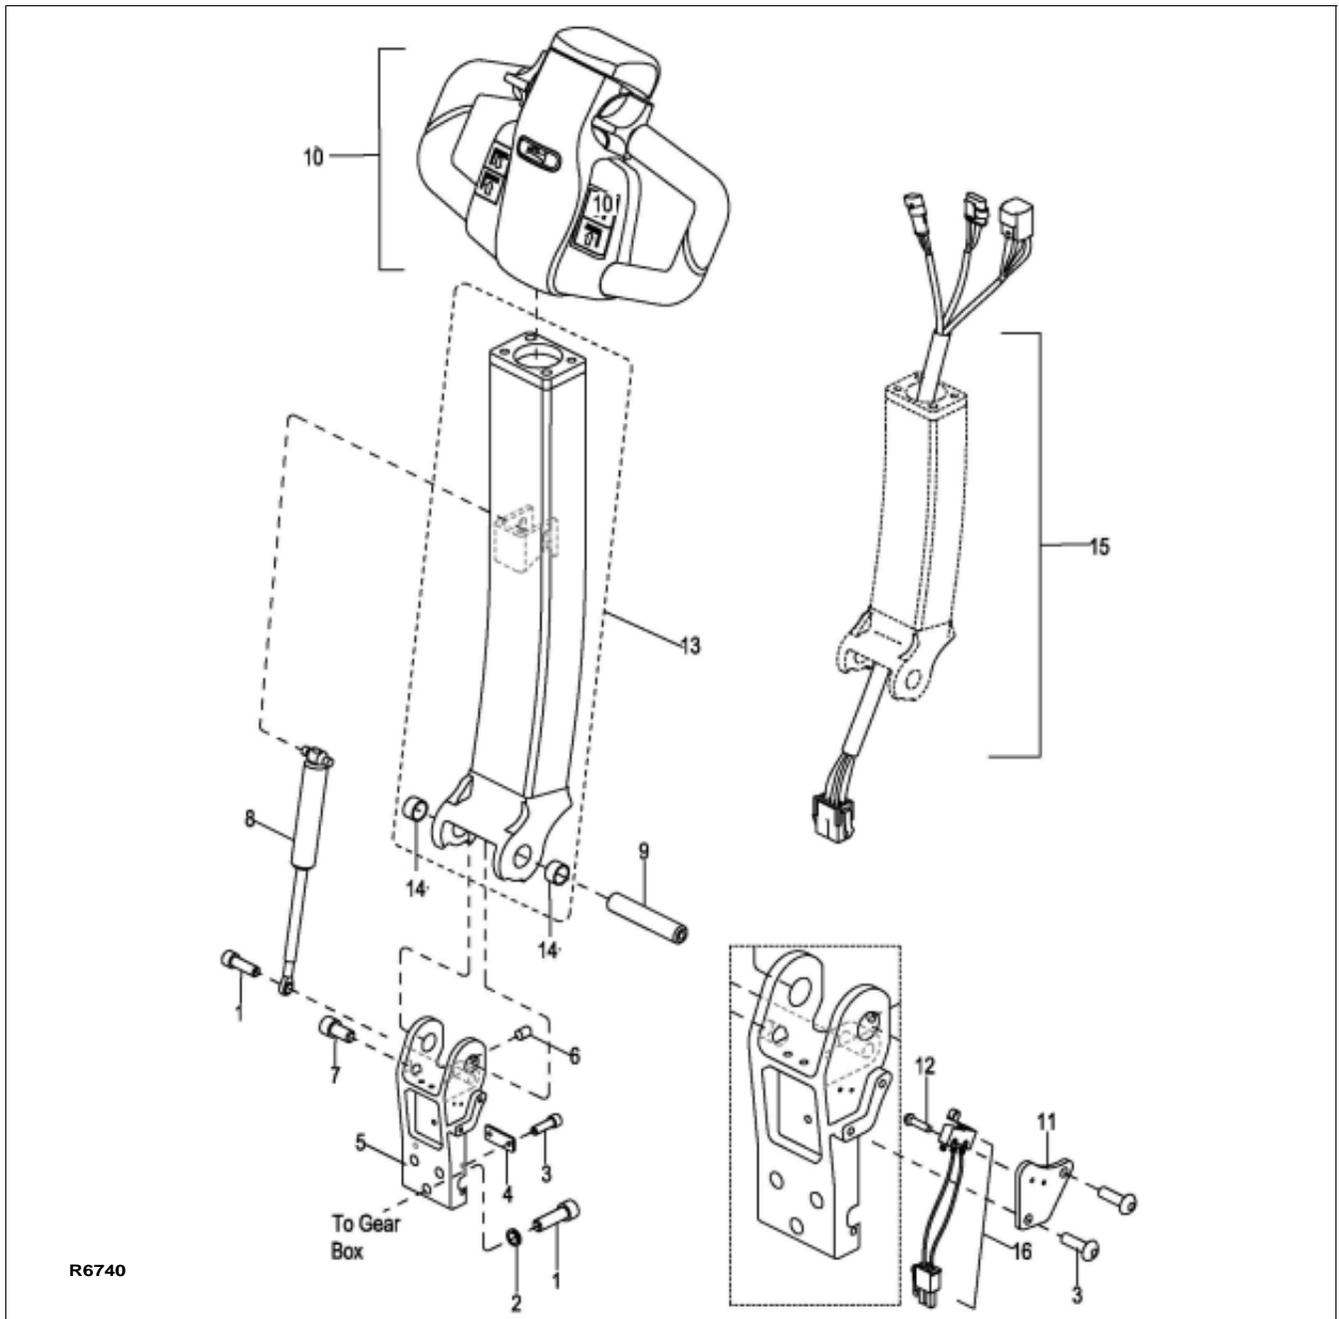
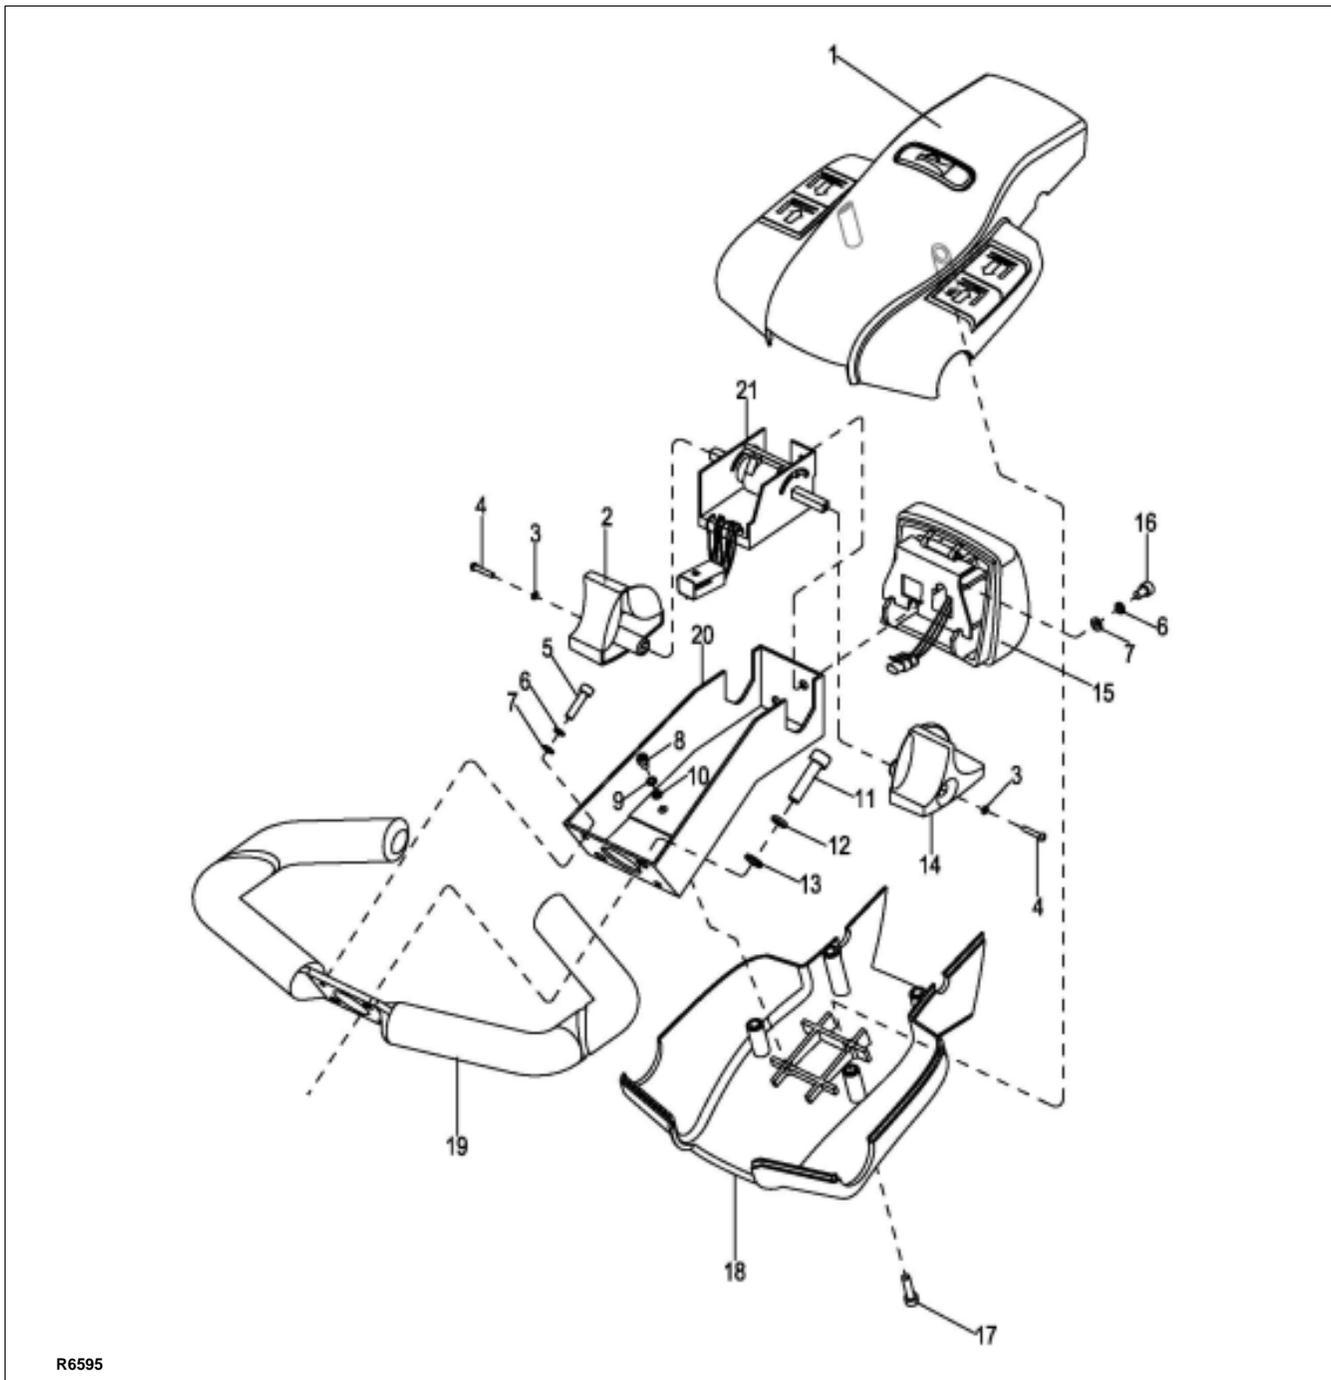

Figure 5-1 Steering Arm
Figure 5-2 Control Head
2. Remove the cap assembly (1, Figure 5-2) as described in paragraph 5-1.3.
3. Disconnect harness (15, Figure 5-1) from potentiometer (21, Figure 5-2).
4. Disconnect harness (15, Figure 5-1) from emergency reverse switch (15, Figure 5-2).
5. Remove two screws (5), two washers (7) and two flat washers (6).
6. Remove two screws (11), two washers (12) and two flat washers (13).
7. Remove the control head and handle (19).
1. Secure control head and handle (19, Figure 5-2) with two screws (11), two washers (12) and two flat washers (13).
2. Install two screws (5), two washers (6) and two flat washers (7).
3. Reconnect harness (15, Figure 5-1) to emergency reverse switch (15, Figure 5-2).
4. Reconnect harness (15, Figure 5-1) to potentiometer (21, Figure 5-2).
2. Remove four screws (17, Figure 5-2) and lift up cap assembly (1).
1. Hold cap assembly (1, Figure 5-2) in place and connect harness (10, Figure 12-17) to harness (9).
2. Disconnect harness (15, Figure 5-1) from potentiometer (21, Figure 5-2).
3. Remove screw (4), washer (3) and control knob (2) from potentiometer (21).
4. Remove screw (4), washer (3) and control knob (14) from other side of potentiometer (21).
5. Remove two screws (16), lock washers (6) and flat washers (7) and remove potentiometer (21) from bracket (20).
6. Position new potentiometer (21) in bracket (20) and secure with two screws (16), lock washers (6) and flat washers (7).
7. Install control knob (2) on potentiometer (21) and secure with screw (4), and washer (3).
8. Install control knob (14) on the other side of potentiometer (21) and secure with screw (4), and washer (3).
9. Reconnect harness (15, Figure 5-1) from potentiometer (21, Figure 5-2).
2. Disconnect harness (15, Figure 5-1) from emergency disconnect switch (15, Figure 5-2).
3. Remove two screws (16), lock washers (6) and flat washers (7) and remove switch assembly (15) from bracket (20).
5. Remove two pins (3) and switch assembly (6) from bracket (4).
6. Position the new switch assembly (6) in bracket (4) and secure with two pins (3).
7. Position bracket (4) and springs (2) in button (1) and install pin (5).
8. Position switch assembly (15, Figure 5-2) on bracket (20) and secure with two screws (16), lock washers (6) and flat washers (7).
9. Reconnect harness (15, Figure 5-1) to emergency reverse switch (15, Figure 5-2).
The steering arm gas return spring (6, Figure 5-2) is replaced while the steering arm (5) is in the upright position.
1. Secure the steering arm (13, Figure 5-1) in the upright position.
2. Remove screw (1) and free the gas return spring (8) from bracket (5).